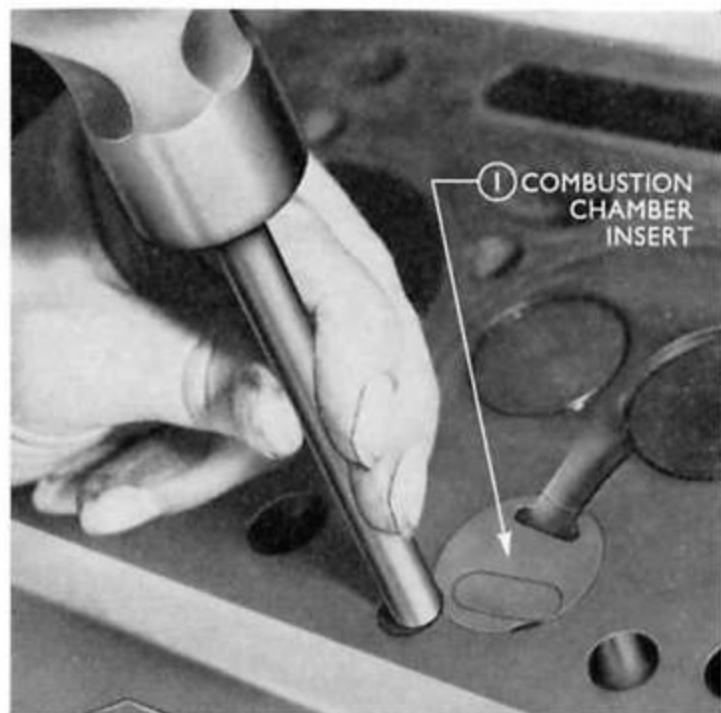

Fig. 54
3. Replace the combustion chamber inserts. When the inserts are fitted they are located by means of expansion washers fitted into the recesses provided, to prevent the inserts from turning in service. Tap the expansion washers home with a suitable steel bar (see Fig. 54).